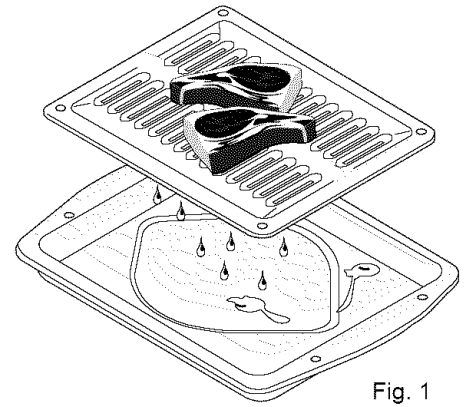

Fig. 1
5. Place the insert on the broil pan, then place the food on the insert (See Fig. 1). **DO NOT** use the broil pan without the insert or cover the insert with **aluminum foil**. The exposed fat could ignite.
1. Open oven door completely (horizontal with floor - See Fig. 1).
3. Fully open the oven door (horizontal with floor - See Fig. 1).